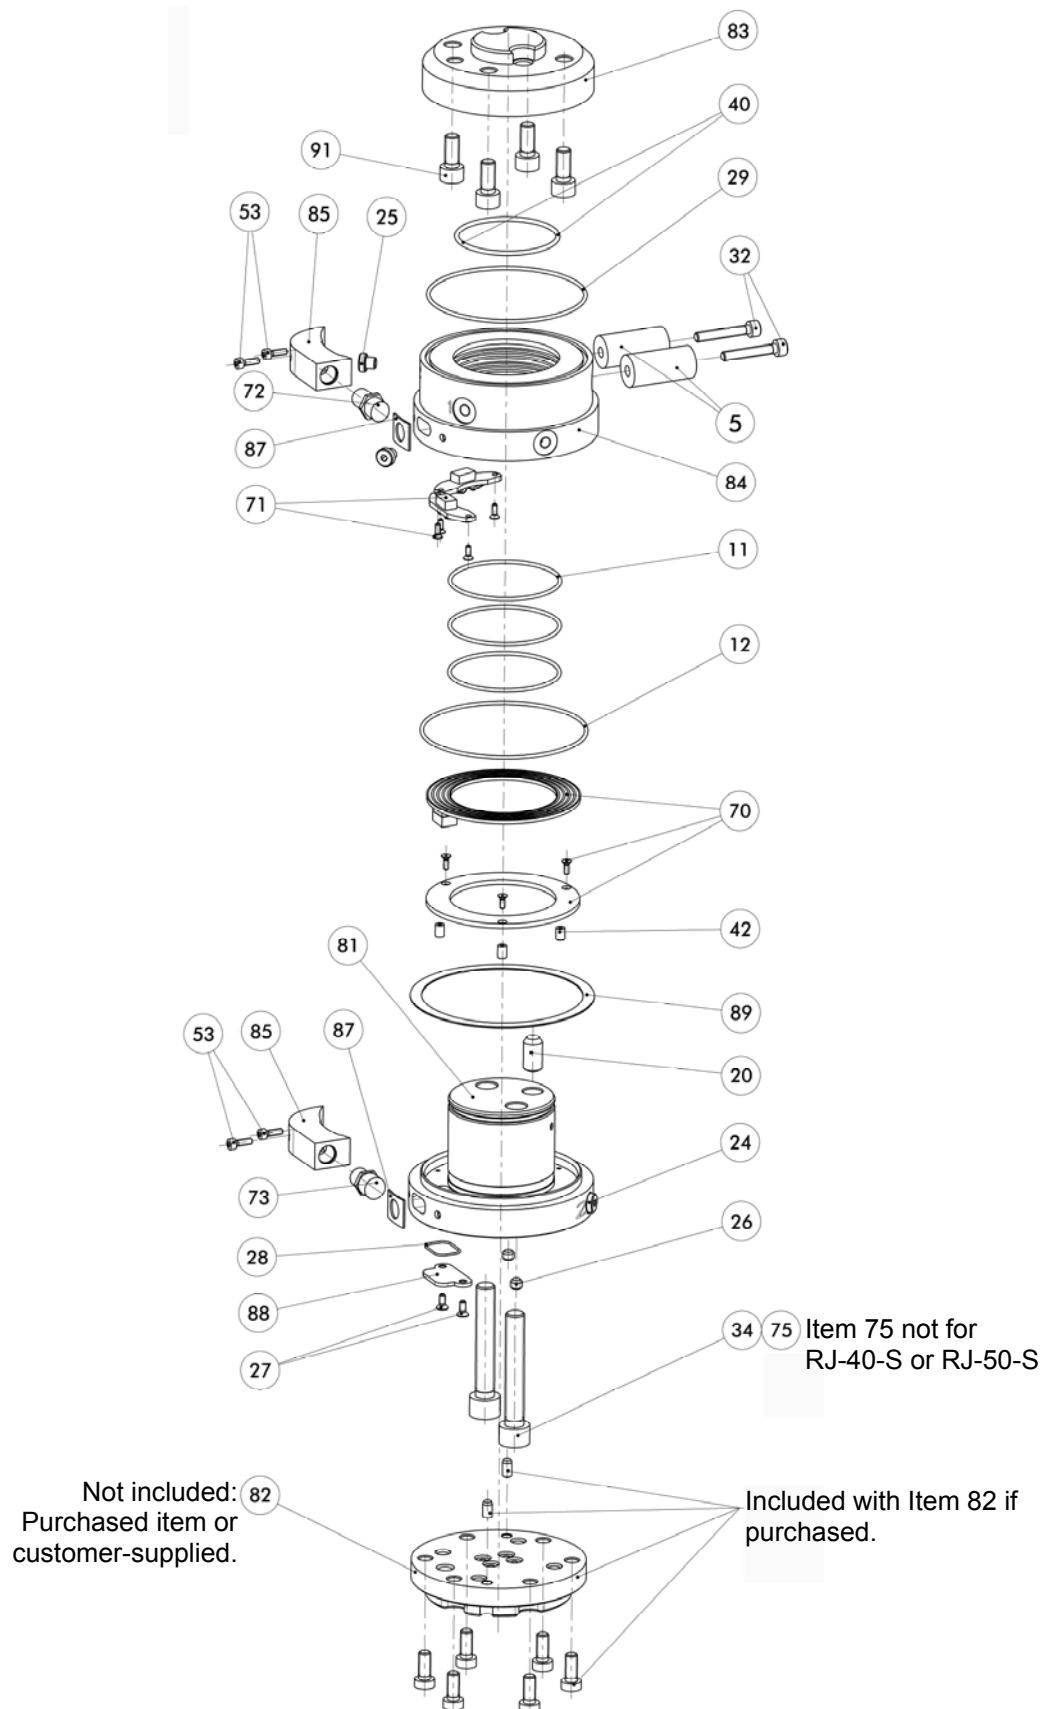

Figure 5.1—RJ 31-S, 40-S, and 50-S
4. Screw the main assembly and plate together using screws (Items 30, 31, 34, or 75 depending on the model—See Figures 5.1, 5.2, and 5.3).
4. Remove the screws completely (Items 30, 31, 34, or 75 depending on the model—See Figures 5.1, 5.2, and 5.3).